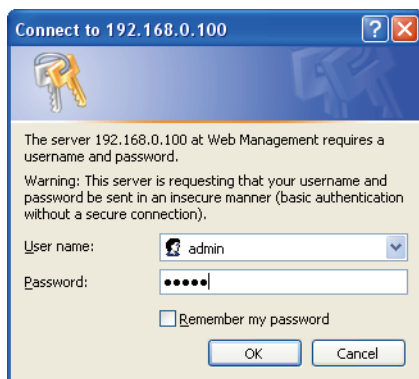

Figure 11-2: Login Screen
2. When the following dialog box appears, please enter the default user name and password "admin". The login screen in Figure 11-2 appears.